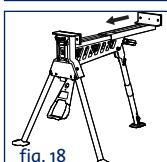

fig. 18
2. Rotate the moving jaw 180° and re-assemble. See fig 18.